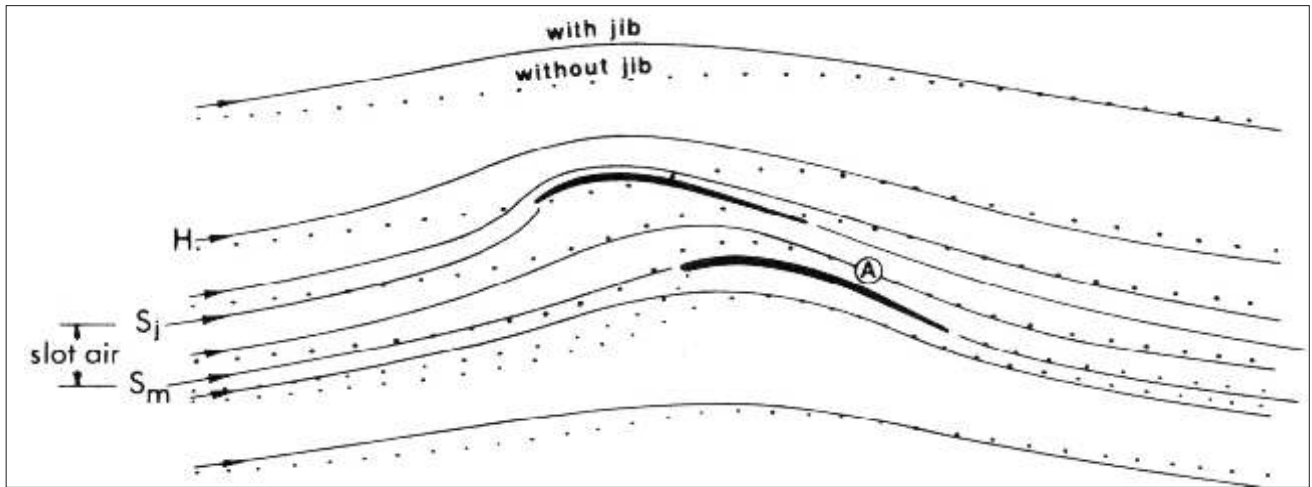
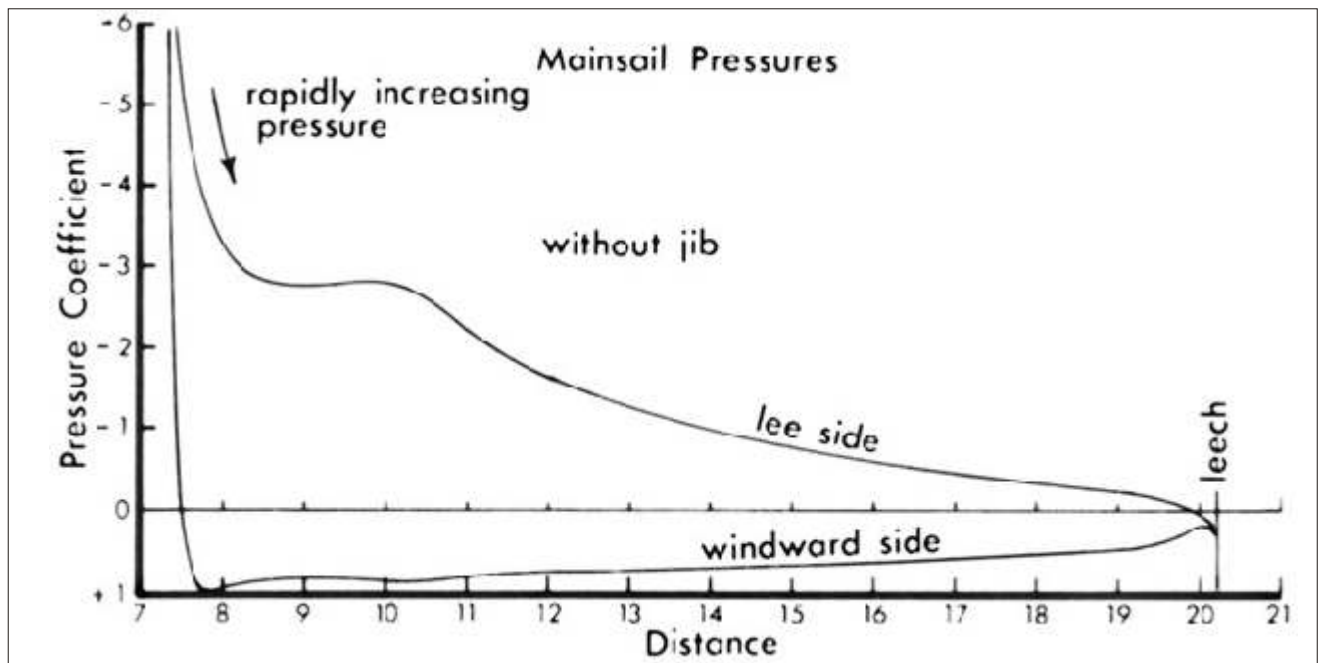

Figure 4
Figure 5
The calculated streamlines for a main alone are shown in Figure 4. Note that the stagnation streamline (S_m) comes into the lower (windward) side of the sail. The calculated pressure, if no separation or stall occurs, is shown in Figure 5. Remember from last month that low pressures (high velocities) are represented by negative pressure coefficients, and that high pressures (low velocities) are shown as positive pressure coefficients.
To prevent this stall, the sheeting angle of the sail is increased, either by letting out the mainsheet or moving the traveler to leeward. This is exactly what our experience is afloat when the jib is lowered. However, in the example shown in Figures 4 and 5, the mainsail is at the same angle at which it would be if the jib were present. And the
pressures shown in Figure 5 are what we get if the flow does not separate.
Carefully note the shape and position of streamline H in Figure 4. This line is selected so that it goes through the point (H) that will be the leading edge for the jib (the headstay) in our next example. The distance between the stagnation streamline S_m and the headstay streamline H at the left side of the figure is a measure of the amount of air that passes between the headstay and the mast without the jib being present and without any separation on the mainsail.